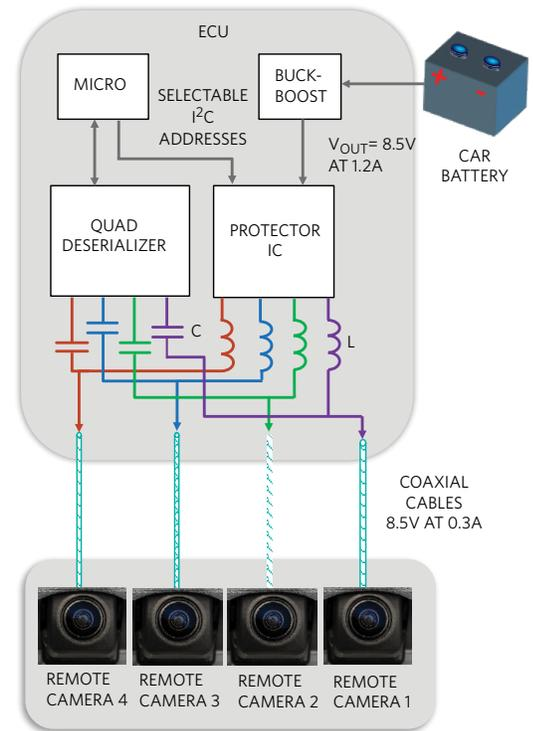

Figure 5. Surround-View Camera System
The current and voltage going into the camera modules via the coaxial cables must be monitored and controlled for various types of faults. Figure 5 shows an example of a surround-view camera system. Here, a buck-boost converter connects to the battery and provides DC power to the remote cameras through a quad protector IC, a bank of AC-blocking coils (L), and four coaxial cables. A quad deserializer connects the microprocessor to the remote cameras via the bank of AC-coupling capacitors (C) and the same coaxial cables.